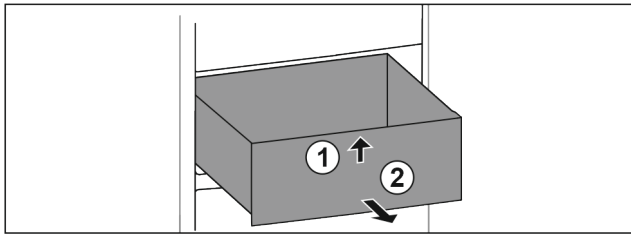

Fig. 93
- ▶ Lift up drawer at the front. Fig. 93 (1)
- ▶ Remove drawer to the front. Fig. 93 (2)